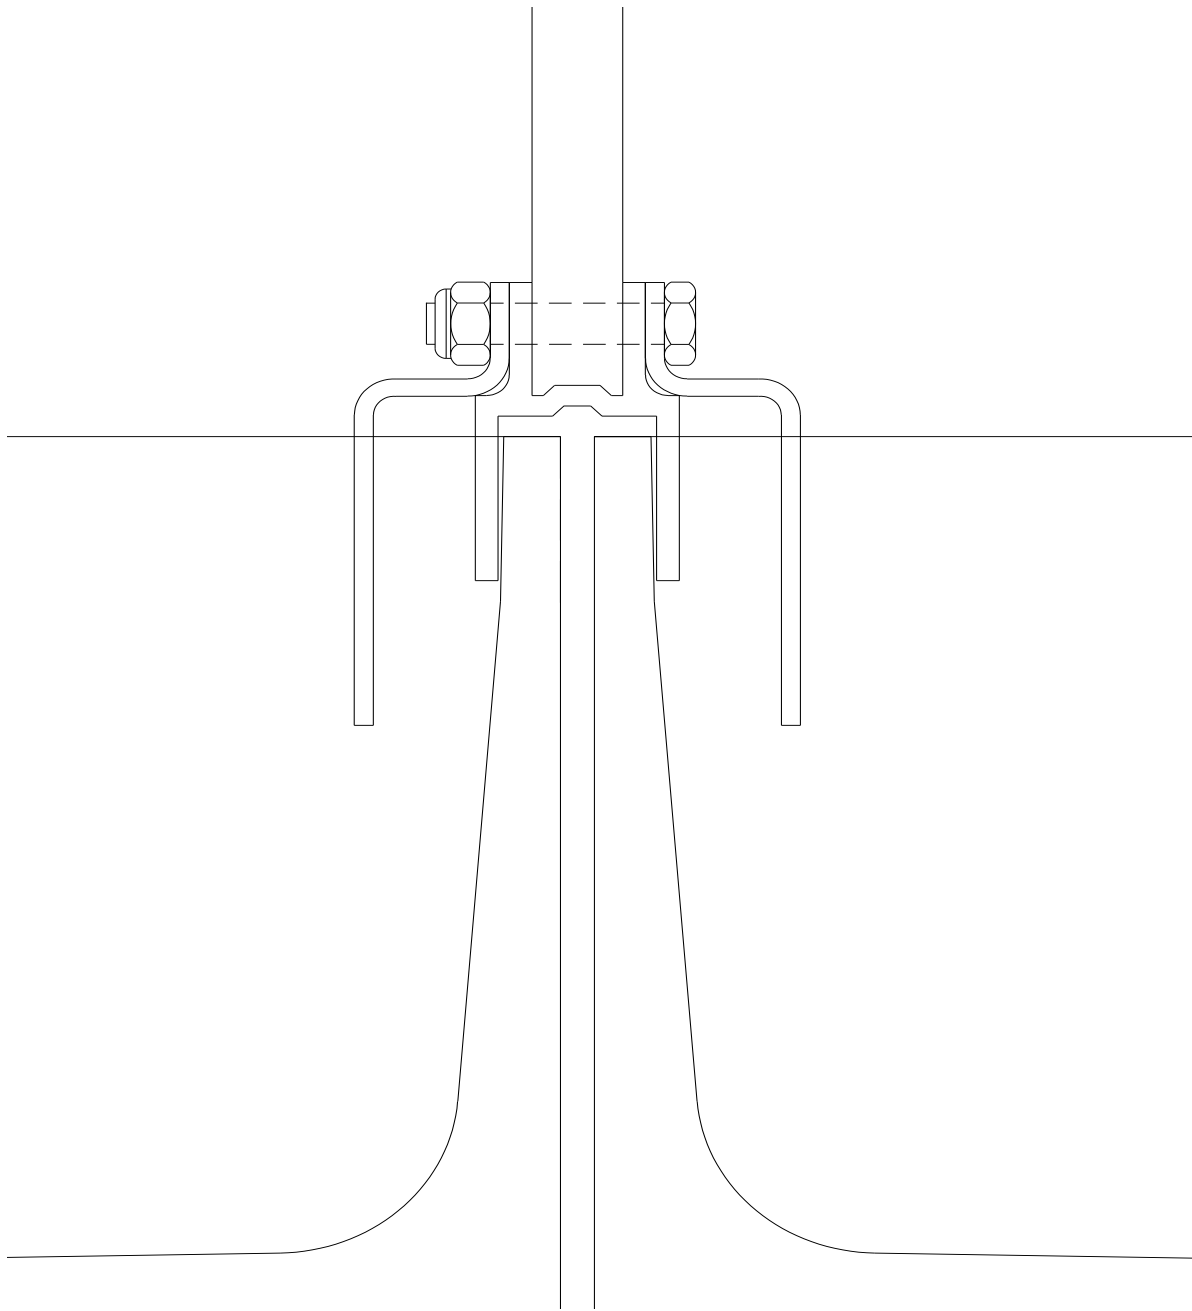

Figure 14
3. With the bracket held in position place a $\frac{1}{4}$ -20 x 1- $\frac{1}{4}$ " hex head screw in each hole and through the division panel. On the opposite side of the panel install the appropriate bracket (except on end runs where there is none) and secure in place with $\frac{1}{4}$ -20 Nyloc nuts. See figure 14.